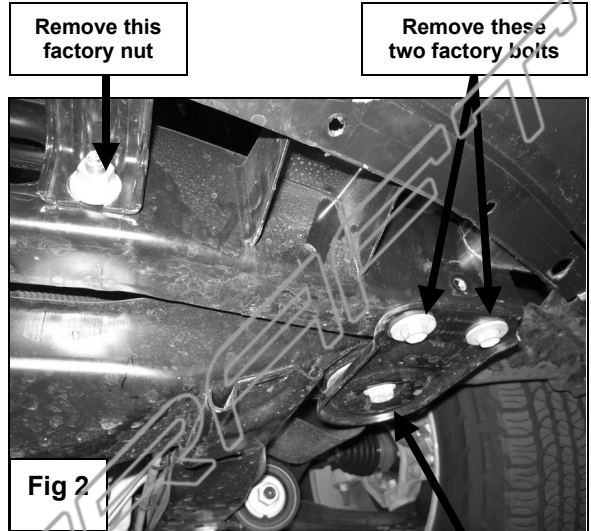

Fig 2
3. Remove the driver side factory hex nut located on the cross member bar. This is the hex nut that mounts the radiator support (**Figure 2**).
4. Locate the driver side motor mount bushing. Use a 15mm socket to remove the two front (small) bolts. Proceed to loosen up the rear (large) bolt just enough so you can slide the Mounting Bracket in between motor mount support and frame (**Figure 2**).